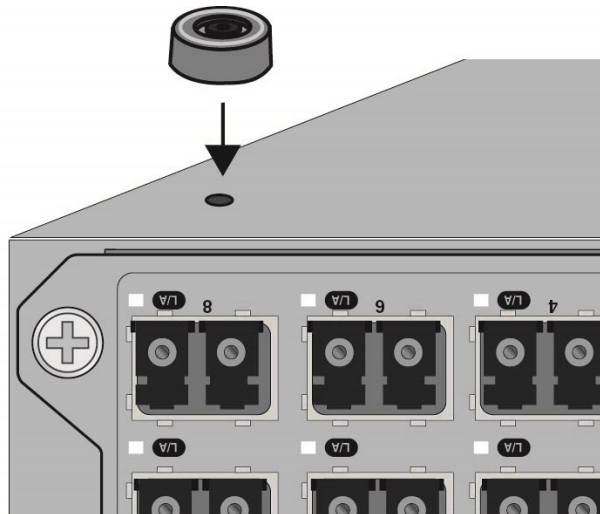

Figure 45. Placing the Bumper Foot on a Base Corner Hole
- b. Place the bumper foot on one of the corner holes in the base of the switch. Refer to Figure 45.